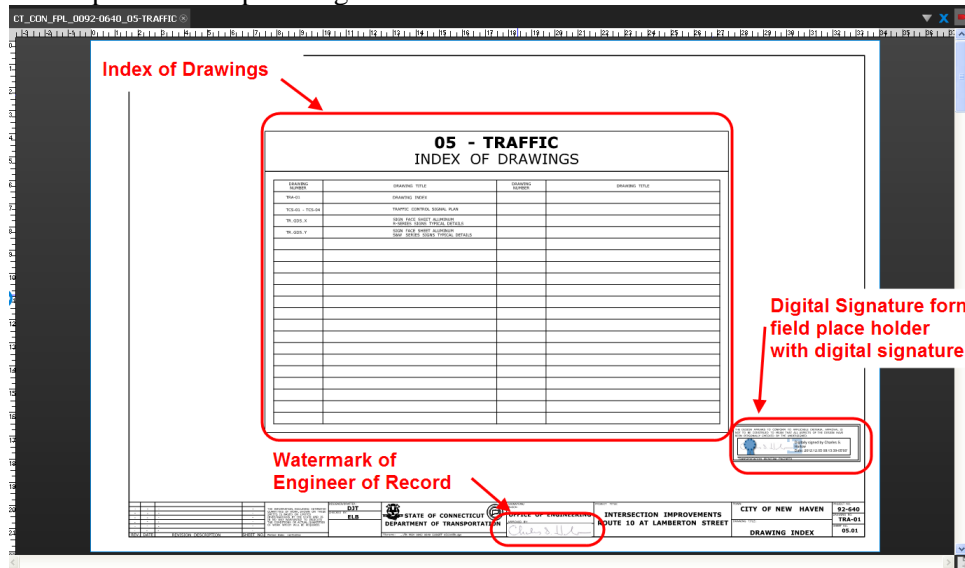

Figure 1 Discipline Subset Bookmarks, Index of Drawings, & Signature fields
11. Each subset shall contain bookmarks; one for each page. Figure 1 displays an example of bookmarks. See Publishing MicroStation Content to PDF Format.pdf for more instructions.
- a. Figure 1 also displays examples of subgroup folders. While publishing, subgroups may be created to contain similar sheets. See Publishing MicroStation Content to PDF Format.pdf for more instructions.
17. The first page of each subset shall be a subset cover sheet, this includes FIO subsets. This cover sheet shall contain both; an index of drawings contained within the subset that includes both drawing numbers and drawing titles and the form field place holder(s) which receives the digital signatures. The following cell has a table for the index of drawings and the digital signature cell place holder BDR Discipline Cover Sheet cell. This table must include the subset name and number displayed as a heading in the table. See Figure 1 for an example.